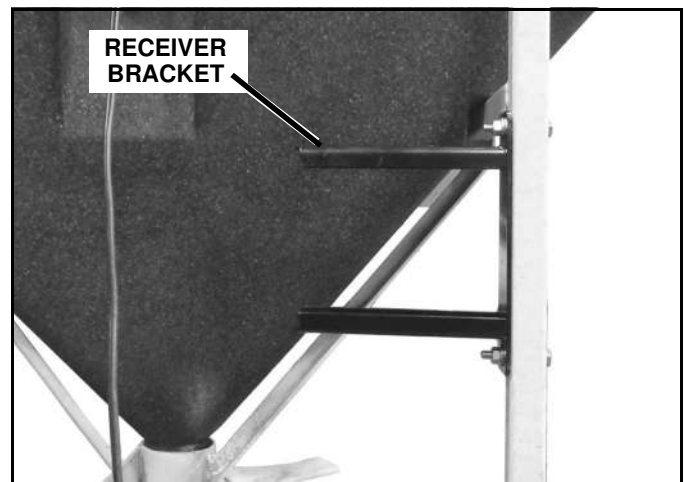

Figure 1-3
1. Remove the receiver bracket from the package and place it on the driver's side vertical tube of the spreader frame. The bracket should be located to the inside of the frame about midway along the tube. Make sure that both the spreader motor harness and vibrator harness can reach the receiver module (See Figure 1-3).
2. Using the bracket as a guide, mark and drill two 9/32" holes all the way thru the tube (If a 9/32" drill is not available use a 5/16"). Secure bracket to the spreader with (2) 1/4" X 1-3/4" hex head cap screws, (2) 1/4" flat washers and (2) 1/4" lock nuts (See Figure 1-3).